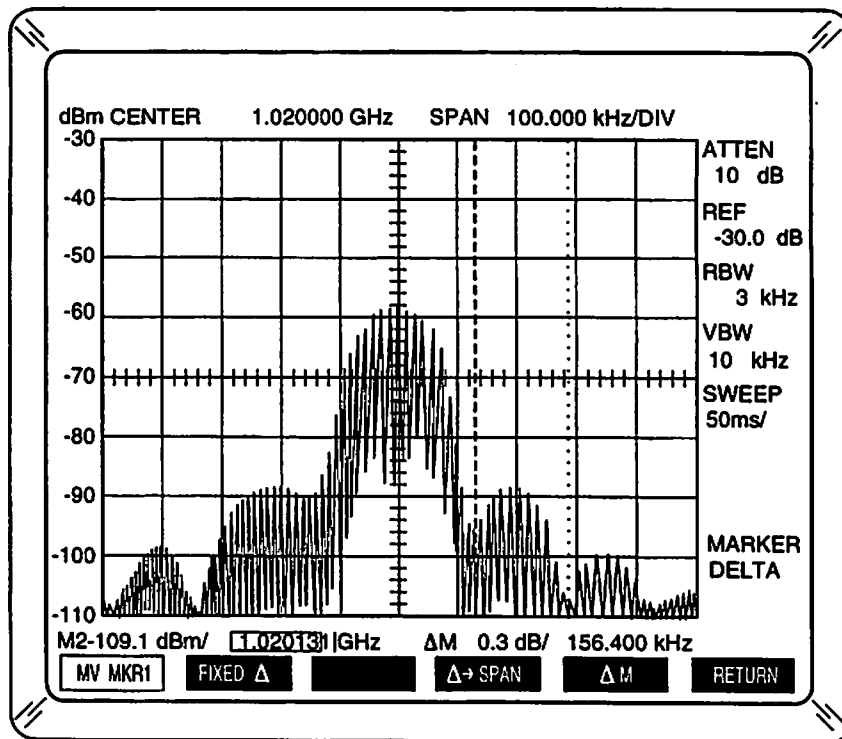

Figure 4-15 Pulsed RF Measurements
5. Press SPAN FREQUENCY Key. Set Frequency Span for displaying pulse modulated RF spectrum. Refer to Figure 4-15.
12. Calculate pulse width from reciprocal: $PW = 1/\Delta F$. (Example in Figure 4-15 is 6.39 μ s.)